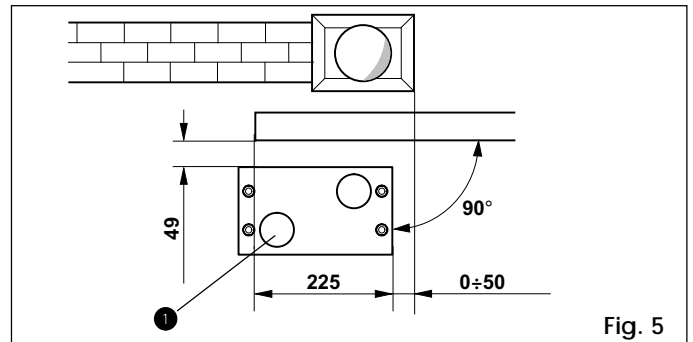
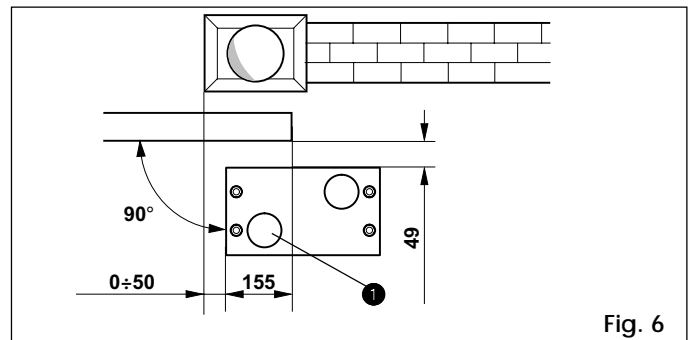

Fig. 5
Fig. 6
- 2) The base plate must be positioned as shown in Fig. 5 (right-handed closure (right-handed closure) or Fig. 6 (left-handed